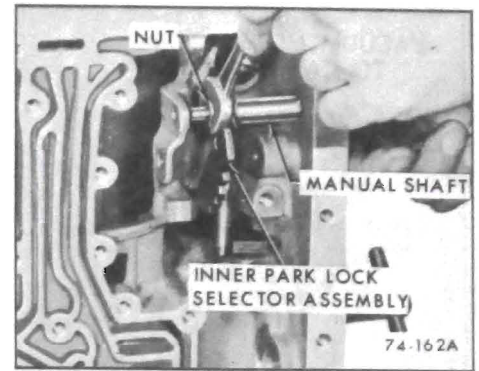

Figure 74-162
3. Fully loosen nut that retains manual shaft to inner park lock and range selector lever. See Figure 74-162.